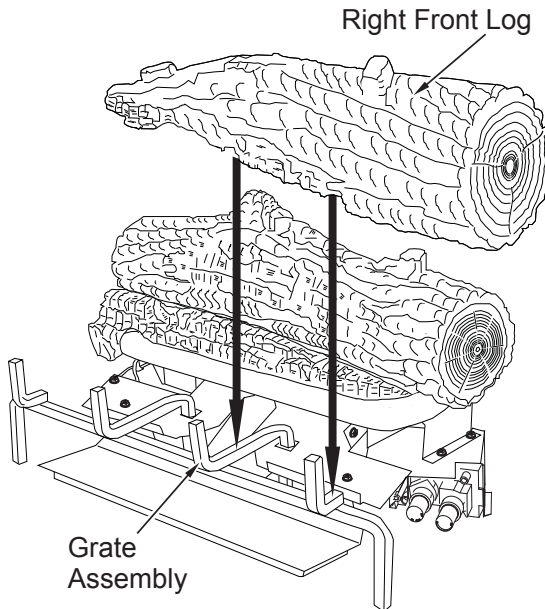

Figure 52 - Installing Right Front Log
3. Place the right front log onto the base and grate assembly as shown in **Figure 52**. The log has notches in the bottom for the grate.